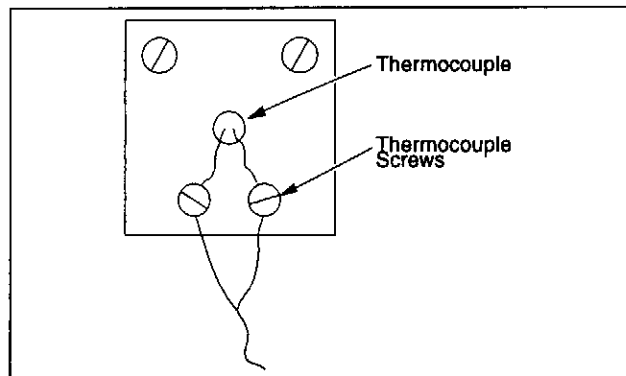

Figure 1. Thermocouple
3. Check the thermocouple wiring connections. Refer to Figure 1 on page 3. Red is always negative.
6. Check that the thermocouple is securely mounted and undamaged. Check the thermocouple wiring connections. Refer to Figure 1. Red is always negative.